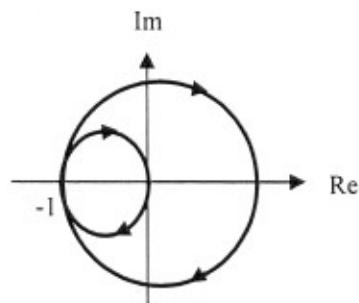

Figure 5
7. [Marks: 5] Figure 5 shows the Nyquist diagram of a system. It is known that the diagram crosses -1 on the real axis. Also, it is known that no open-loop poles are in the right half plane. What is the system stability? Explain why.